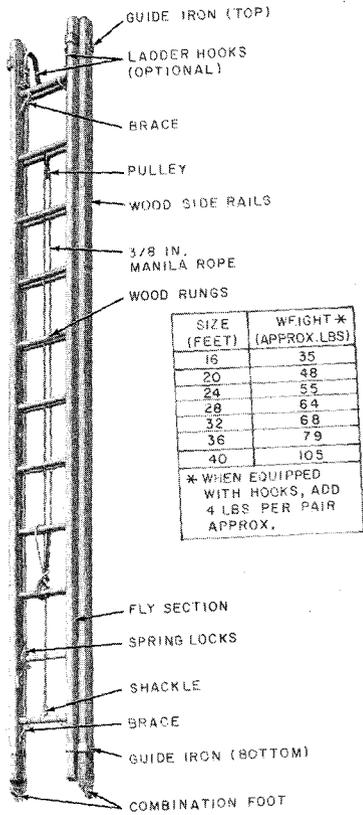

Fig. 1—C Extension Ladder
- 3.01** Extension ladders and their features are listed in Table B and are shown in Fig. 1, 2, and 3.